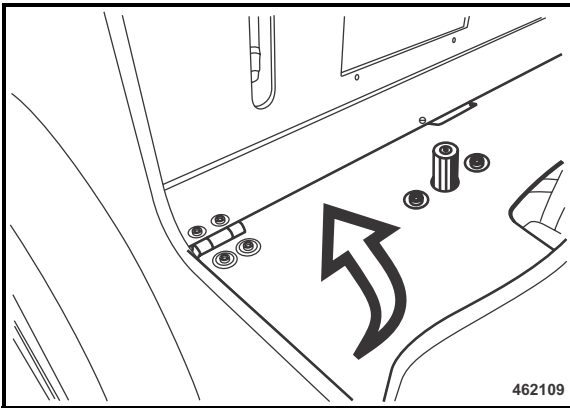

Fig. 167
- Fold up the covering hood (Fig. 167).